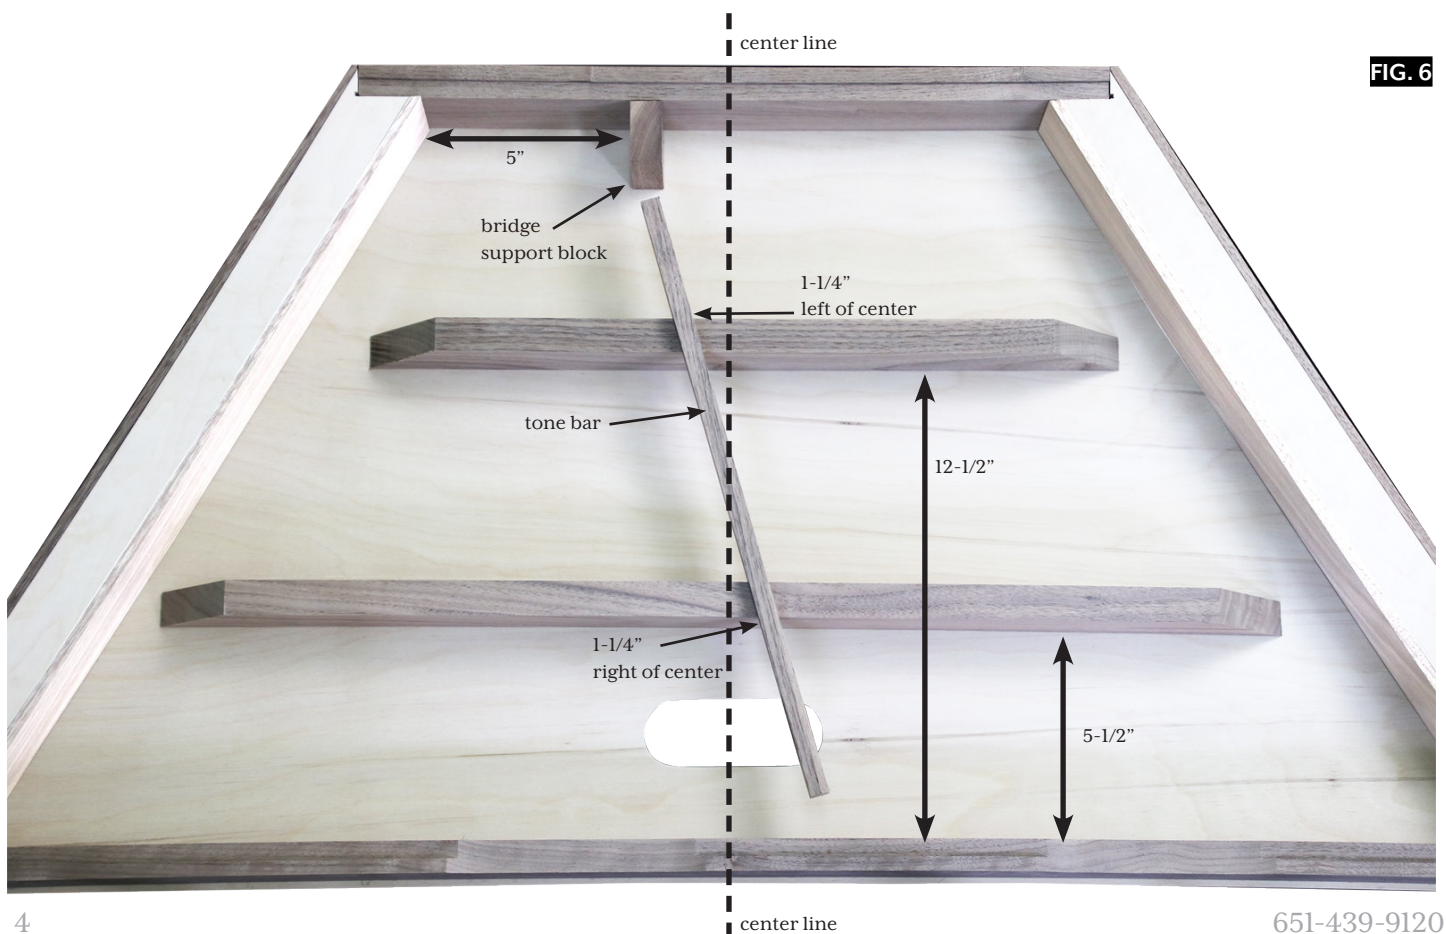

FIG. 6
- ___6. The two INNER BRACES are cut with a slope at each end. The function of these braces is simply to support the TONE BAR, which, in turn, supports the middle of the SOUNDBOARD. These BRACES do not need to touch the PINBLOCKS. Measure the distances (shown in fig. 6) from the long FRONT RAIL to determine the proper placement, then glue them to the BACK, using heavy weights and/or clamps until dry.
- ___7. When the INNER BRACES are dry, position the TONE BAR on top of them. Orient it at an angle to the centerline of the instrument. (fig. 6) The TONE BAR should overhang the two BRACES equally. Mark its position on the BRACES so you can glue it down accurately with weights or clamps holding it until dry
- ___9. Glue the BRIDGE SUPPORT BLOCK to the BACK and the REAR RAIL, 5" from the inside left corner so it stands the same height as the PINBLOCKS. (fig. 6)